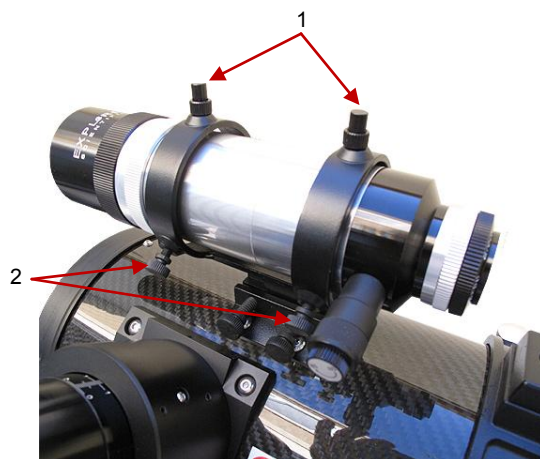

Fig. 4, Finder Scope Adjustment Screws
4. Look through the finder scope eyepiece and loosen or tighten, as appropriate, one or more of the finder scope collimation screws (2, Fig. 4) until the finder scope crosshairs are precisely centered on the object you previously centered in the telescope eyepiece.
NOTE: The two screws on the top of the finder scope (1, Fig. 4) are not adjustment screws. They are spring loaded used to hold the finder scope.